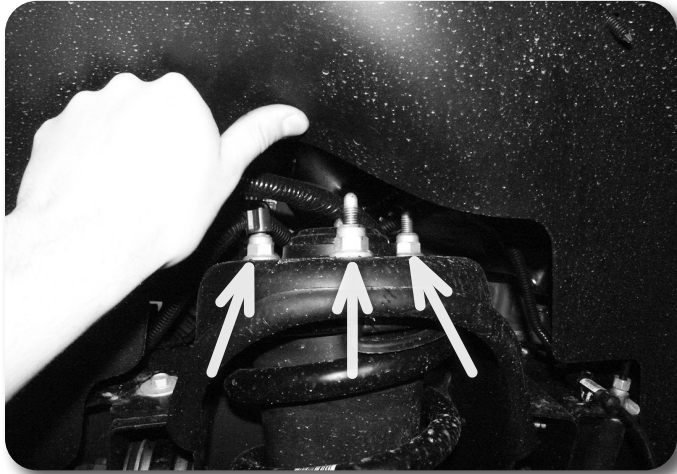

Figure 9
15. Remove the three upper strut mounting nuts **Figure 9** and remove the strut from the vehicle. **DO NOT** remove the center strut rod nut, it is under extreme pressure. Save nuts.